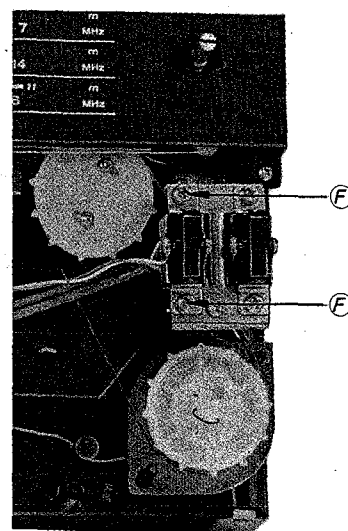

Fig. 2-8 IF-AF circuit board removal, step 4
4. Remove the two screws labeled ⑥ in Fig. 2-8.